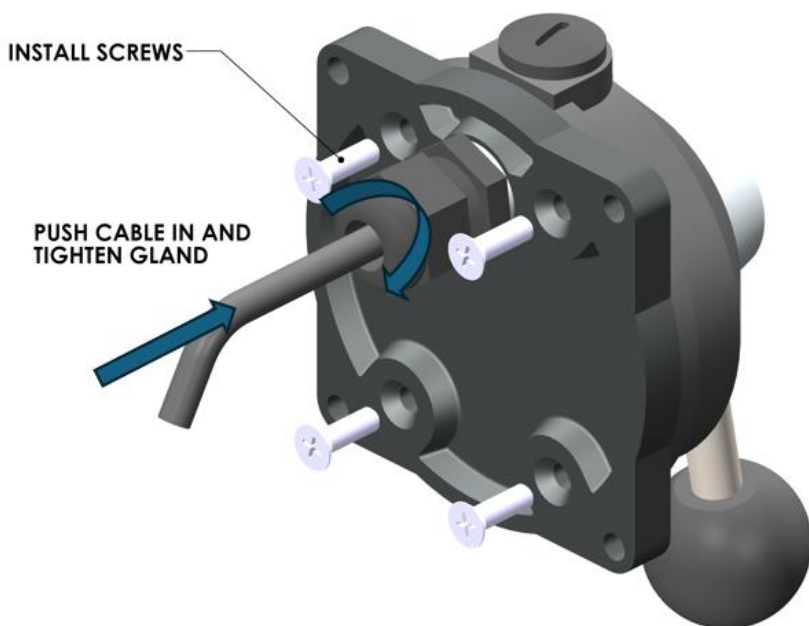

Figure 30: Replacing cover
39. Slide the cover back onto the housing positioning as shown in Figure 30.
41. Re-tighten the cable gland. For under dash models, ensure the cable is pushed into the housing when tightening the gland as shown in Figure 30.